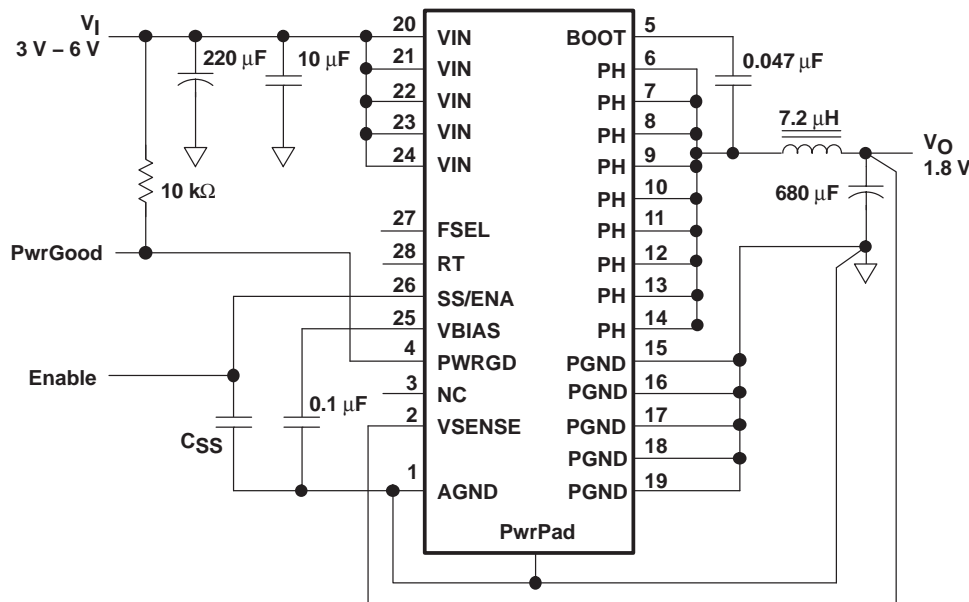

Figure 10. Application Circuit
(1) Specified by design
(2) Static resistive loads only
(3) Tested using circuit in Figure 10.
(4) To ensure proper operation when RC filter is used between external clock and FSEL pin, the recommended values are $R \leq 1\text{ k}\Omega$ and $C \leq 68\text{ pF}$.
Figure 10 shows the schematic diagram for a typical TPS54614 application. The TPS54614 (U1) can provide greater than 6 A of output current at a nominal output